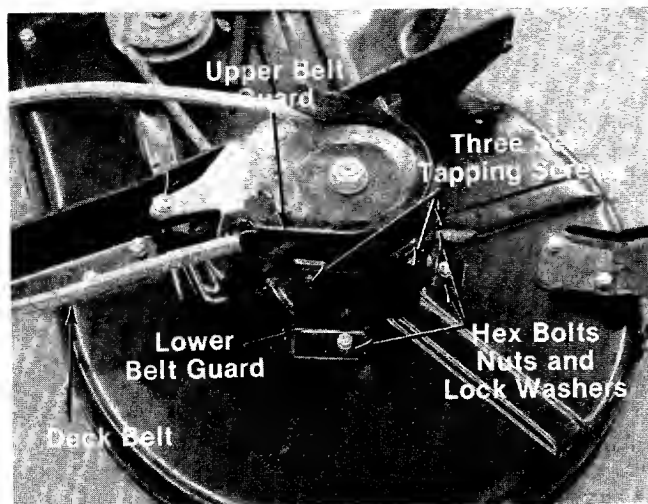

FIGURE 34.
1. Remove the three hex self-tap screws holding the upper belt guard to the mower belt guard. See figure 34.
1. Remove the deck belt and upper belt guard. See figure 34.
2. Remove the lower belt guard by removing three hex bolts, lock washers and hex nuts. See figure 34.